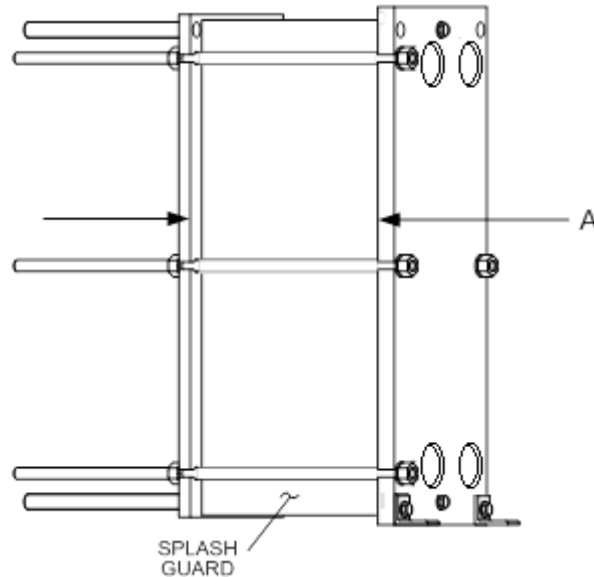

Figure 5-1. Double-Wall Heat Exchanger Only
14. During start-up of Double-Wall models, there may be some evidence of leakage prior to the plates and gaskets reaching their working temperature. If leakage continues, check to ensure that dimension "A" in Figure 5-1 is correct within $\pm 1\%$ of the value shown on the channel plate assembly instructions. (Refer to Chapter 8, section 8.7.1 for details).
1. Remove the splash guard to access the Plate Pack (see Figure 5-1).